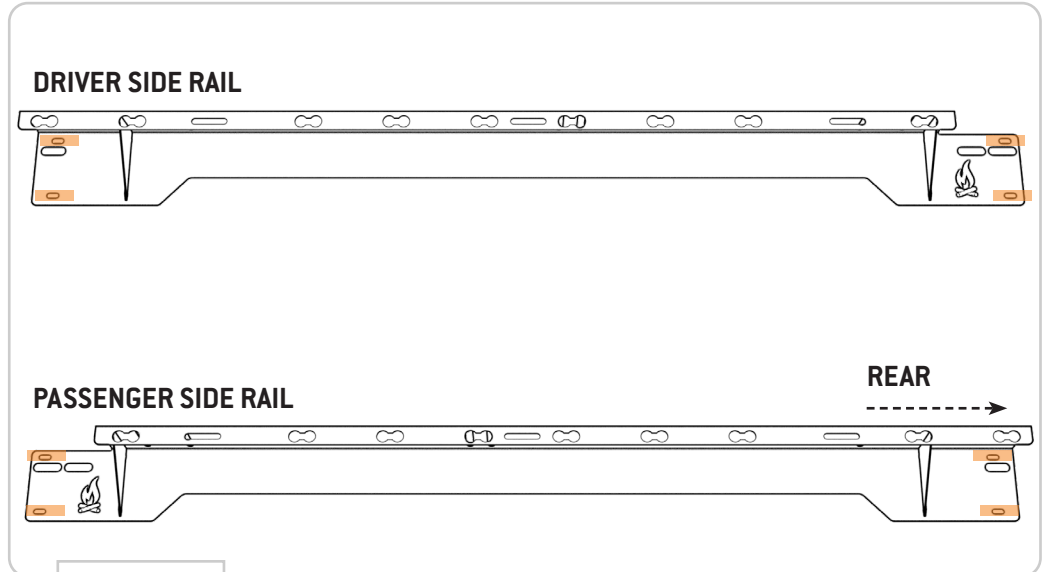

FIG 4
2.1b See mounting slots highlighted in **FIG 4**. These are designed to accommodate 1/4-20 screws for use when attaching FVC Bed Rails to your FVC Bed Bracket System.